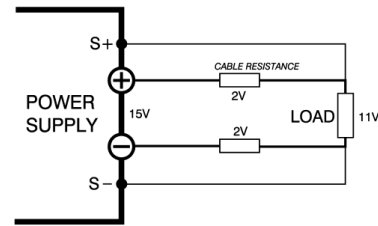

Figure 7.9: Remote sensing: voltage drop in DC load leads subtracts from the maximum DC output voltage.
- In Figure 7.9 it can be seen that on a 15 V power supply only 11 V will be available on the load when 2 x 2 V compensation is used.